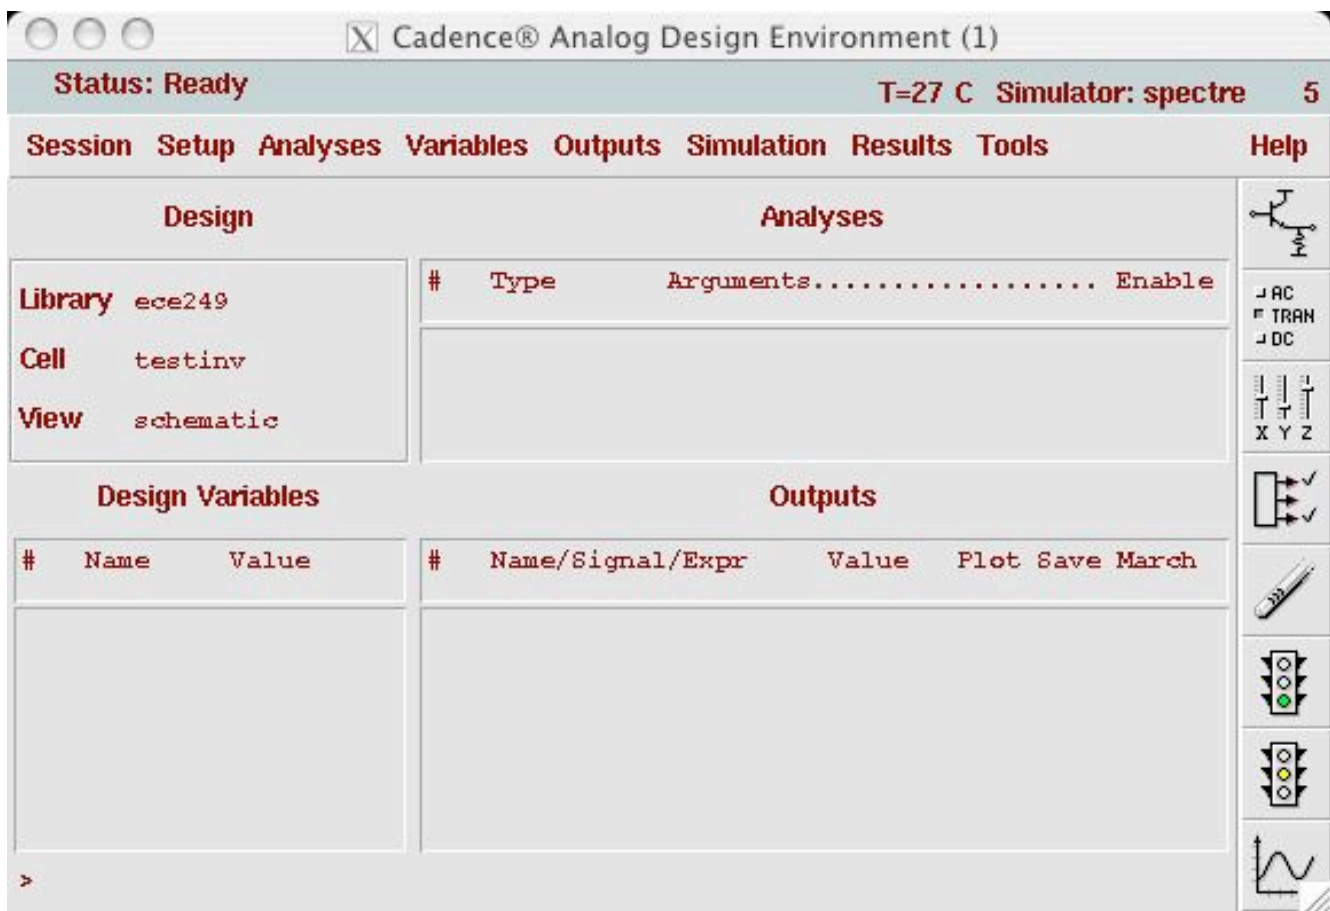

Fig. 17. Analog Circuit Design Environment window.
- Step 9:** In the *Virtuoso Schematic Editing* window, go to *Tools... → Analog Environment*, an *Analog Circuit Design Environment* window appears as shown in Fig. 17.